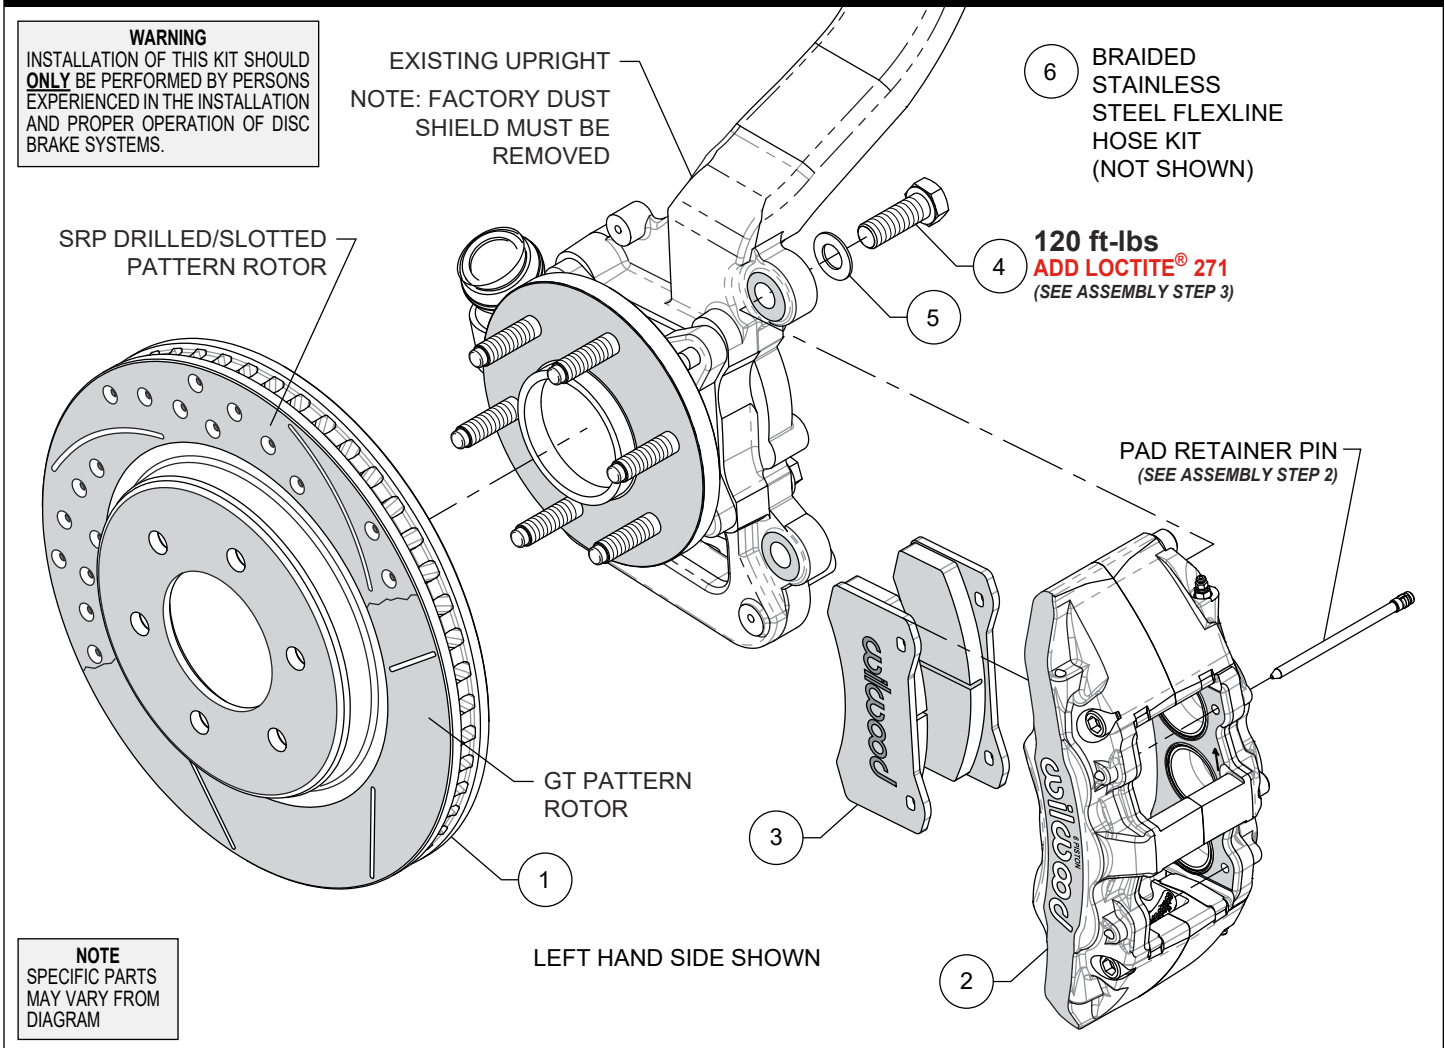

Figure 1. Typical Installation Configuration
Numbers in parenthesis refer to the parts list and Figure 1 on the preceding pages.
STEP 1 Slide the rotor (1) onto the hub. **NOTE:** The rotor must fit flush against the hub flange or excessive rotor run out may result. Install three lug nuts (finger tight) to keep the rotor in place while continuing with the installation, Photo 2.
STEP 2 Remove the two pad retaining pins from the caliper (2). Insert the brake pads (3) into the caliper, with the friction material facing the rotor, as shown in Photo 3. Secure the brake pads in place with the pad retaining pins, Figure 1 and Photo 3. **CAUTION:** Ensure pad retaining pins are completely engaged into caliper, Photo 4. It is recommended to use a small flat punch and hammer to lightly tap the pins in until they are fully seated.
STEP 3 **NOTE:** This kit contains distinct right and left hand calipers that must be mounted in a specific direction, as described below. Ensure that the caliper is mounted so the largest pistons are at the rotor exit end of the caliper, in relation to the direction of the rotor. Mount the caliper (2) onto the OEM caliper mounting tabs
using bolts (4) and washers (3), as shown in Figure 1 and Photo 5. Apply red *Loctite*® 271 to bolt threads, and torque to value shown in Figure 1.
STEP 5 Attach brake line to caliper. **NOTE:** OEM rubber brake hoses generally cannot be adapted to Wilwood calipers. Install Wilwood’s stainless steel braided flexline hose kit (6) that is included with this kit. See below for more info on flexline kits.